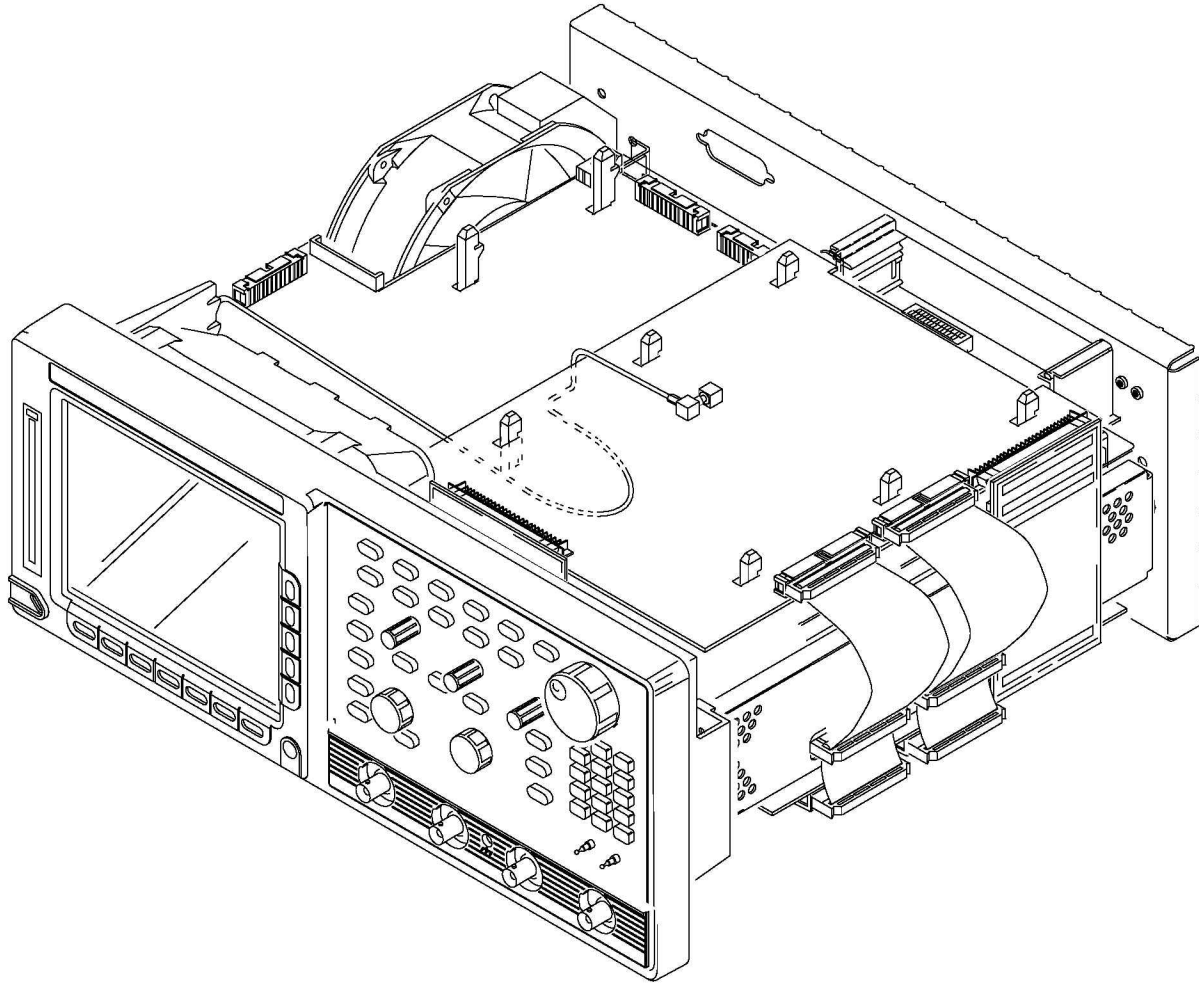

Figure 6-16: Circuit Board Installed
4. *Remove the processor/display board:* Figure 6-16 shows the A29 Video Trigger board (option 05) installed. Use Figure 6-19 as a guide while doing the following substeps:
Be sure to arrange the coax cable around the post as shown in Figures 6-16 and 6-17. Failure to do this may impair performance.